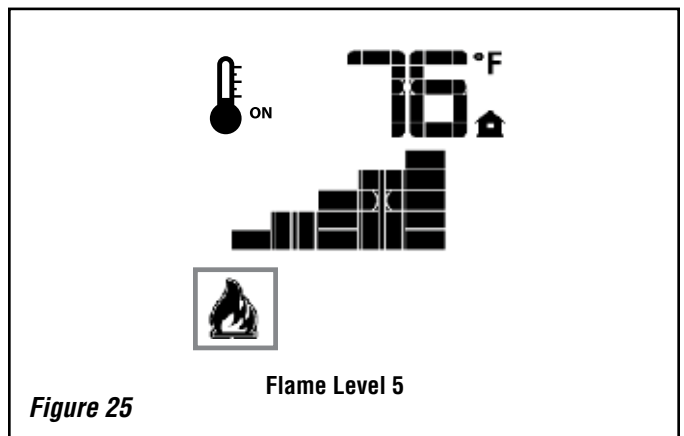

Figure 25
The system has six (6) flame levels. See **Figure 25** for an example. With the system on, and the flame level at the maximum in the appliance, pressing the Down Arrow Key once will reduce the flame height by one step until the flame is turned off.